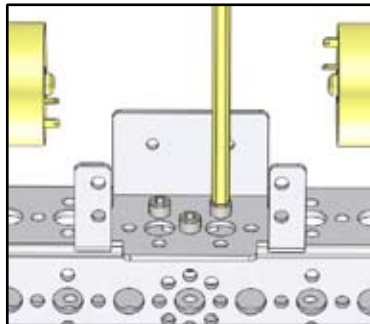

Figure B1
- 1) Determine where on the chassis you want to place the servo. Using 1/2" SHCSs and kep nuts, attach the single-servo motor bracket to the chassis – note that the side with one long piece standing up is where the back of the servo faces (Figure B1).